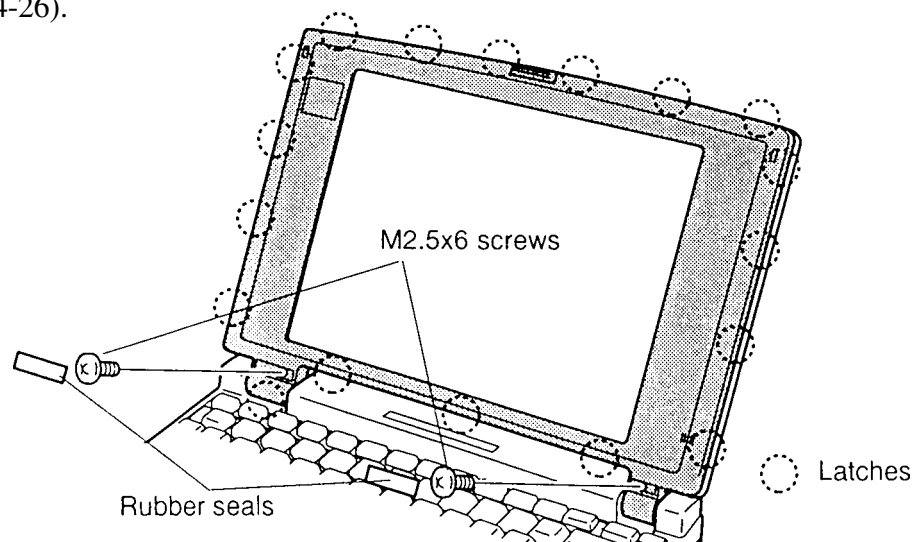

Figure 4-26 Removing the display mask
To remove the display mask, follow the steps below and refer to figure 4-26.
6. Continue releasing the mask along the **sides (four latches on each side)**, at the bottom (**three latches**), and display supports (**one latch** at the small display support and **three latches** at the larger display support are not indicated in figure 4-26).
To install the display mask, follow the steps below and refer to figure 4-26.